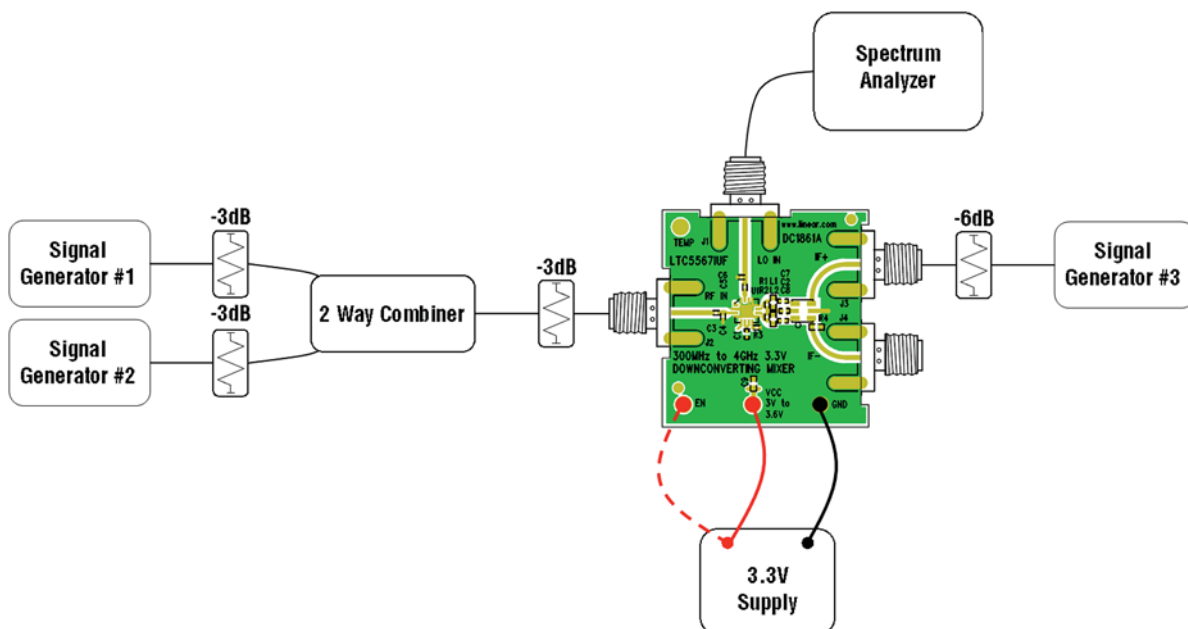

Figure 1. Test Setup for Mixer Two-Tone Measurements
- High quality combiners should be used to present a broadband 50 Ω termination on all ports as well as provide good port-to-port isolation. Attenuator pads may be used on the inputs to the combiner and the RF input port of the LTC5567 mixer shown in Figure 1. Adding attenuator pads further improves source isolation and helps prevent the signal generators from producing intermodulation products.
1. Connect all test equipment as shown in Figure 1.